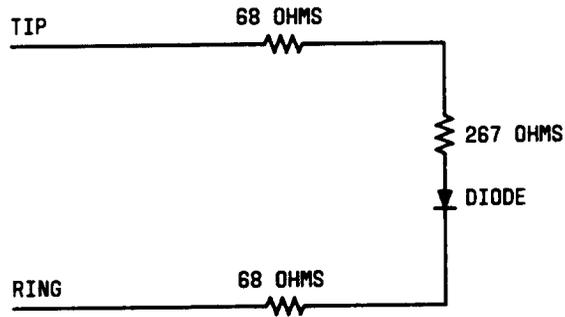

Figure 22 — dc Bypass Pair Calibrate Termination
14. **Note 1:** For the RT calibrate command, test for the diode/resistor combination at the RT end of the dc test pair (Figure 22).